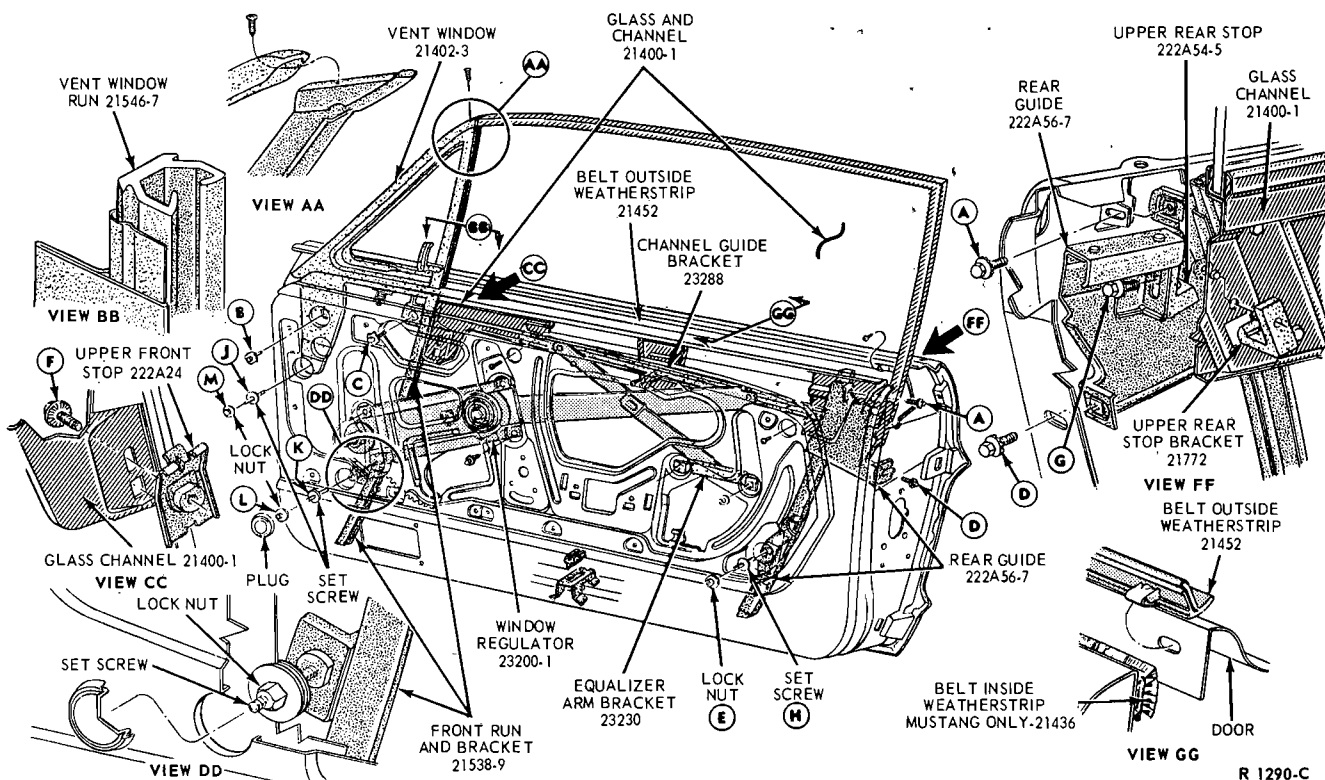

FIG. 5—Door Window Glass Adjustment—Mustang and Cougar
2. Loosen screws A, B, C, D, F, and G (Fig. 5) and lock nuts E, L, and M (Fig. 5).
3. Raise the window and position the window inboard or outboard for proper alignment with the outside belt weatherstrip. Then, tighten the screw A, Fig. 5.
4. Tilt the window fore or aft to obtain a parallel relationship between the top of the window and the roof rail weatherstrip. Then, tighten the rear guide lock nut (Item E, Fig. 5).
5. Adjust the upper front and rear stops up and down for correct adjustment. Then, tighten the attaching screws (Items F and G, Fig. 5).
B and C, Fig. 5). The door glass must be free of binding after the vent window is adjusted.
7. Adjust the inboard or outboard tilt of the vent window and door glass to obtain an air tight interference between the windows and the roof rail weatherstrip by adjusting the three set screws (Items H, J, and K, Fig. 5) in or out as required. When the desired adjustment is obtained, tighten the set screw lock nuts (Items E, L, and M, Fig. 5) and the rear guide adjusting screw (Item D, Fig. 5).